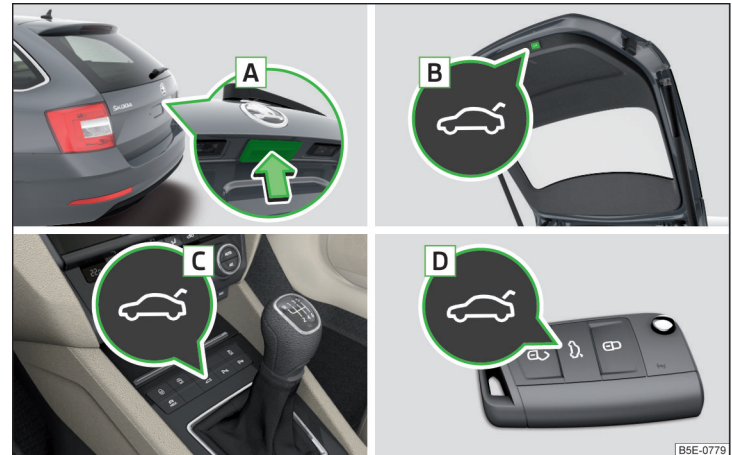

Fig. 56 Lid operation
- ▶ By pressing the handle **A** » Fig. 56.
- ▶ By pressing the button **B** » Fig. 56.
- › Press and hold button **B** » Fig. 56 on page 65 until you hear an acoustic signal.
The lid does not react to an opening signal	Removing a possible obstacle (e.g. snow), re-opening the lid » page 65 Press handle A » Fig. 56 on page 65 and pull the lid upwards